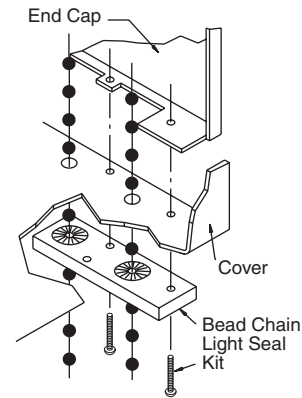

Figure 13
- ⑪ Re-attach cover to head box.
- ⑫ For bead-clutch operation, uncouple the chain at the connector so that the chain can be dropped through the two large holes in the bottom of the face cover that line up below the clutch. Hook cover top over top lip on top cover and swing down. Check alignment then snap on at end caps. If this is a pocket installation, re-attach bottom closure to pocket. Slide the length of the bottom cover into the slot on the head box, then push up and snap on at end caps. Attach at end caps using screws removed in step 3. For an electric or spring operated shade, proceed to step 15. For a bead clutch operated shade, the two ends of the bead chain can be threaded through the holes in the bead chain light seal and the light seal can be attached to the bottom of the cover box (see Figure 13).